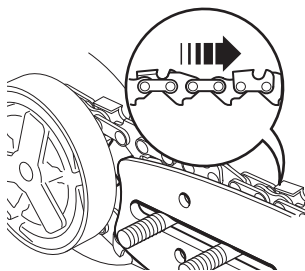

Fig. 5
- > Spread the saw chain (3) over the sprocket (22) behind the clutch (21) and fit around the guide bar (4) with the cutting edges of the chain pointing in the rotational direction (Fig. 5).